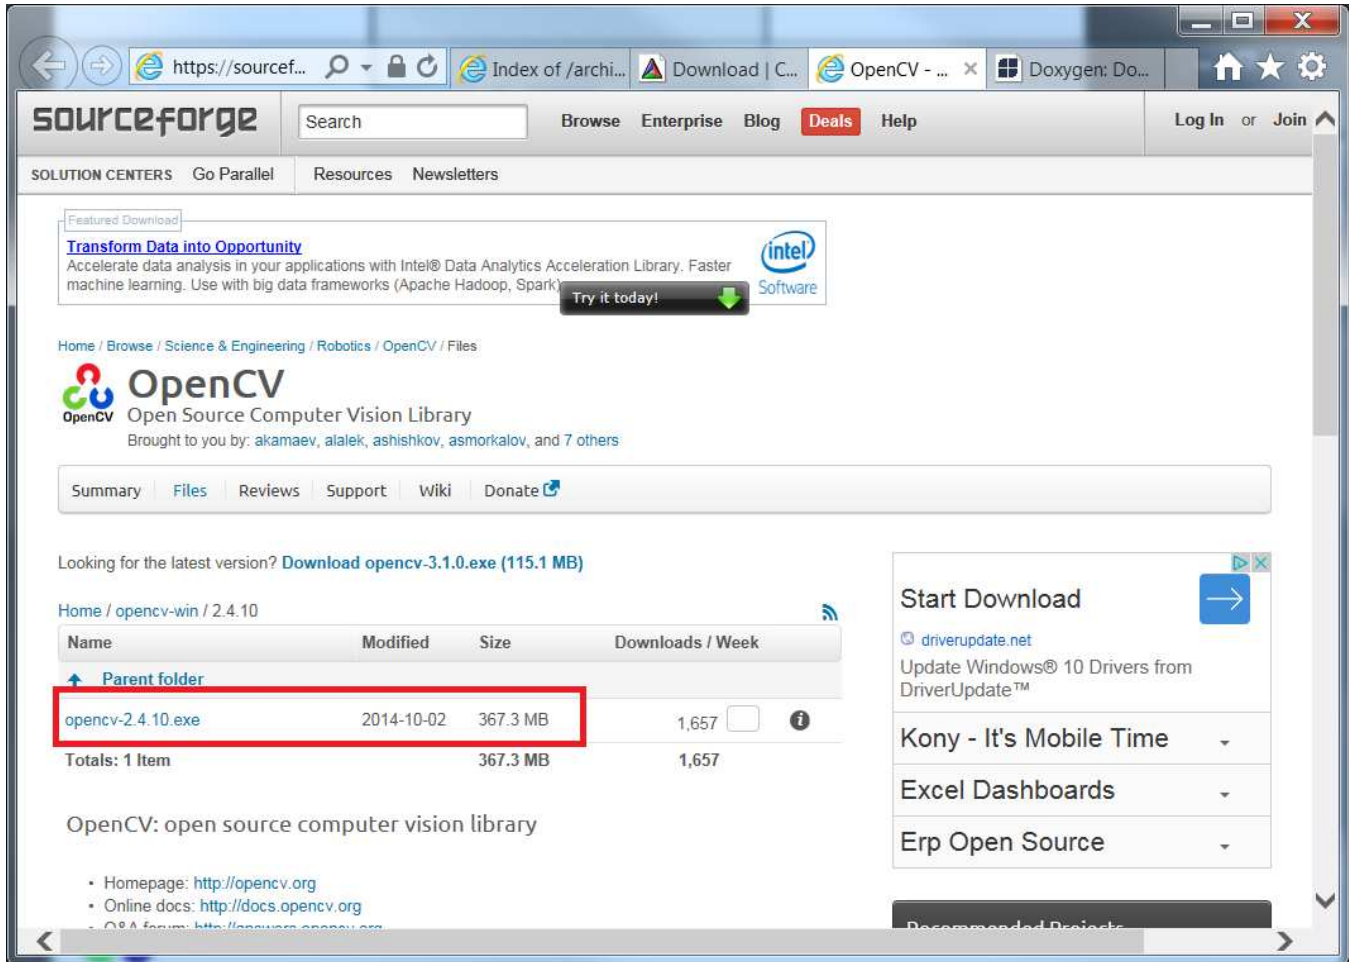

Figure 21. OpenCV Website
1. Download OpenCV from the link in Section 1. Figure 21 shows the link on the download page. Once the download is complete, run the executable.